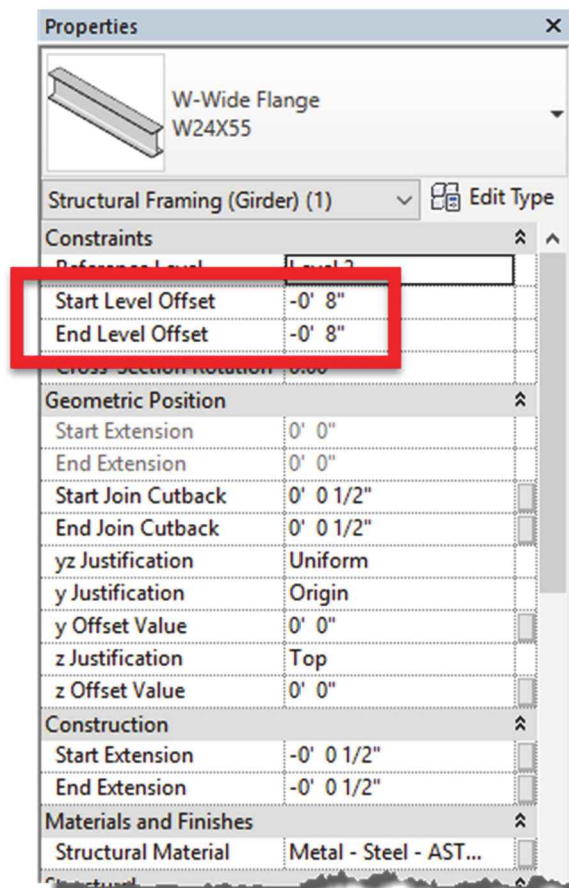

FIGURE 8-3.18 Beam properties
31. Select the **Beam** and view its properties via the *Properties Palette* (Figure 8-3.18).